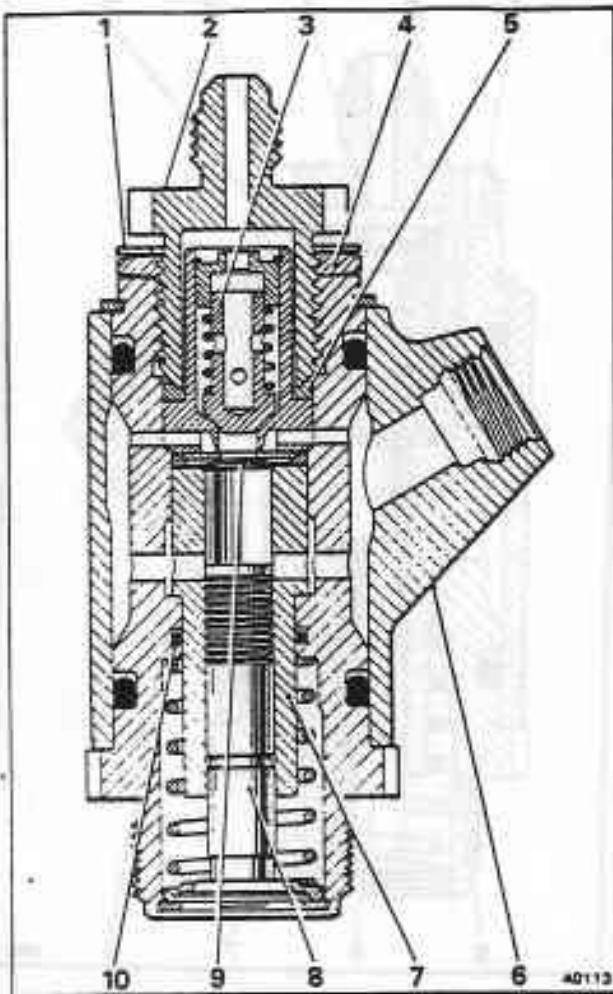

Fig. G6-5 Hydraulic pump
1. Release the lock-nut (if fitted) situated at the top of the brake pump (see fig. G6-5).